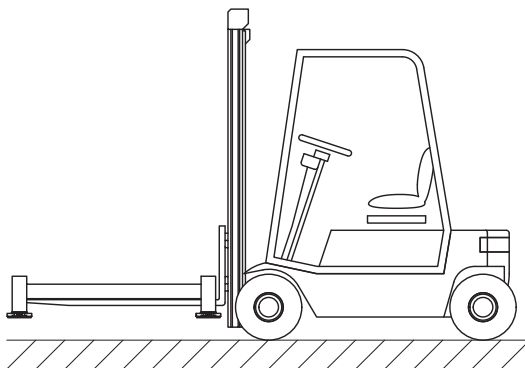
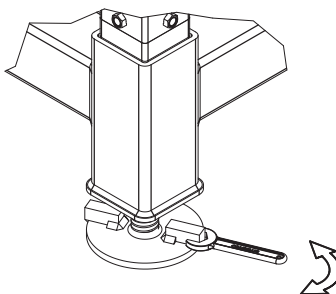

Figure 12. *Lifting the Bottom Frame with truck.*
Figure 13. *Adjustment of the Foot height with a 22 mm spanner.*
1. Make sure that the ground, where the Loading System MkII is placed, is relatively flat. The Loading System MkII Base has got adjustable feet which are designed to adjust within a 5 degree inclination. Use a fork lift truck to handle the Bottom Frame, place the forks underneath the horizontal tubes and spread the forks apart prior to lifting, see Figure 12. Place the Bottom Frame on the ground. Use a spirit level to make sure that the Bottom Frame is level. If not, simply rotate the feet by hand or use a 22 mm spanner to wrench, or a hammer to strike on the Adjusting Bar to adjust the feet until the Bottom Frame is level, see Figure 13.